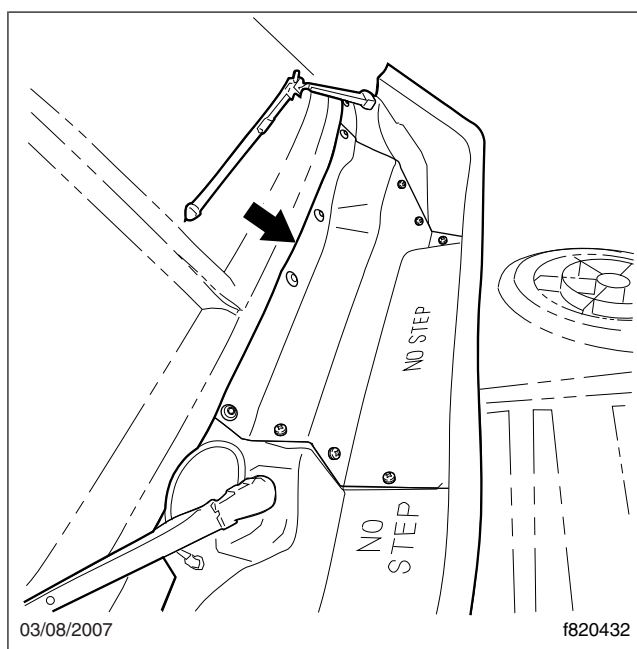

Fig. 2, Rain Tray, Center Section
5. Remove the center section of the rain tray by removing the fasteners that attach it to the windshield support and to the left-side and right-side sections of the rain tray; see Fig. 2.
12. Install the center section of the rain tray by attaching it with the fasteners to the windshield support and to the left-side and right-side sections of the rain tray; see **Fig. 2**. Tighten the screws that attach the rain tray to the windshield support 8 to 12 lbf-ft (11 to 16 N-m). Ensure that the tray seals evenly with the cab, with no gaps.